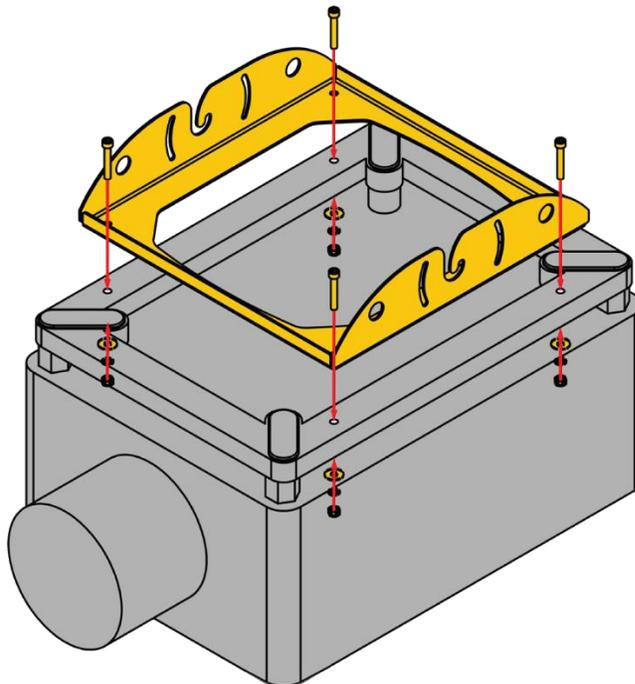

Figure 84:
Step 10: Attach the projector plate ⑥ to the Supra-5000 projector using the projector mounting kit ⑩ (4pcs.), as shown in **Figure 84**.